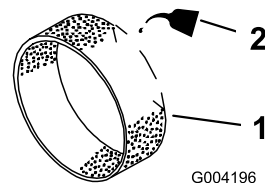

Figure 19
3. Put one or two ounces of oil on the pre-filter (Figure 19).